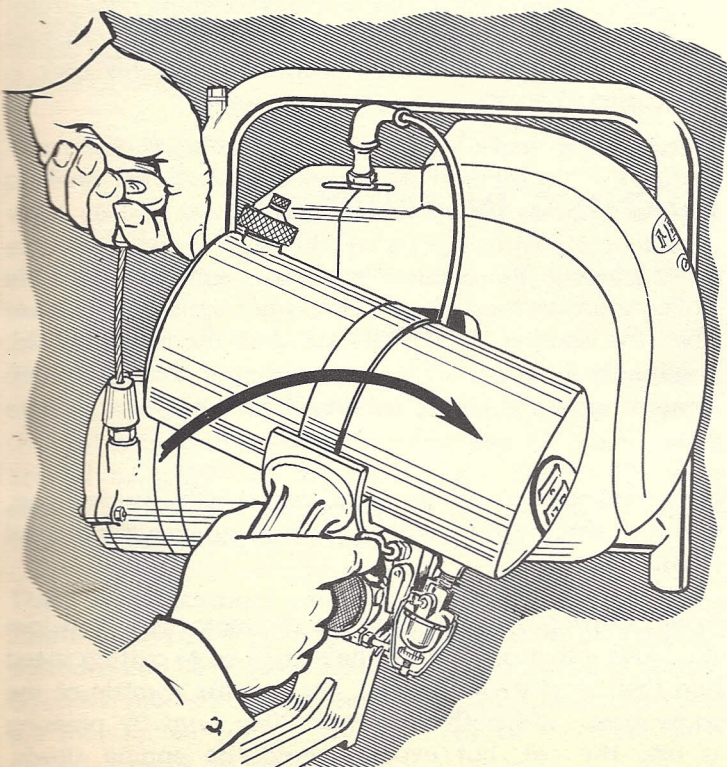

Fig. 4
4. Swivel the rear handle well over to the right, first disengaging the swivel release trigger (Fig. 4) (this floods the carburetor). The machine should be tilted slightly forward when this is being done, but care should be taken not to hit the cutting chain on anything which will damage the teeth.
6. Pull the pull-start knob (Fig. 4) easily until engagement is felt, and then give the knob a firm, solid pull, moving the hand between one and two feet. To return the knob, move the hand back to the housing, allowing the cable to re-wind itself.
The change from the bucking to the felling position is accomplished by pulling the Swivel Release Trigger (Fig. 4) and then turning the front end of the machine around by means of the handle-bar. The clutch lever should be brought around at the same time so that it can be reached easily in the felling position.